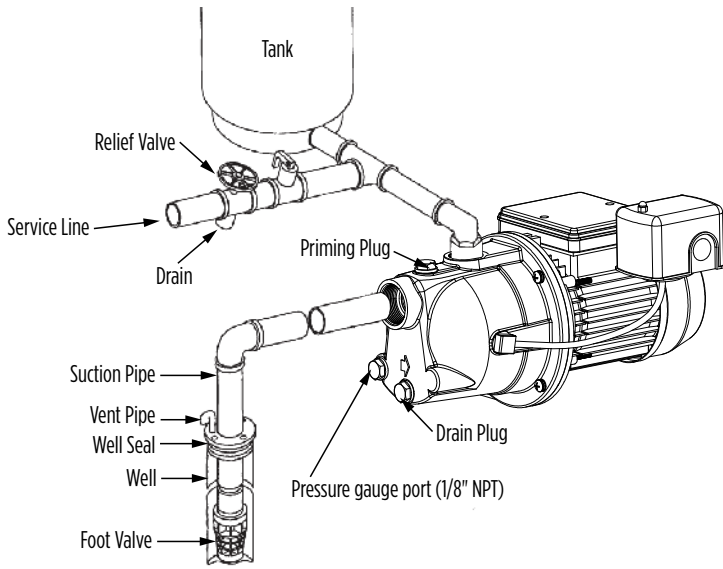
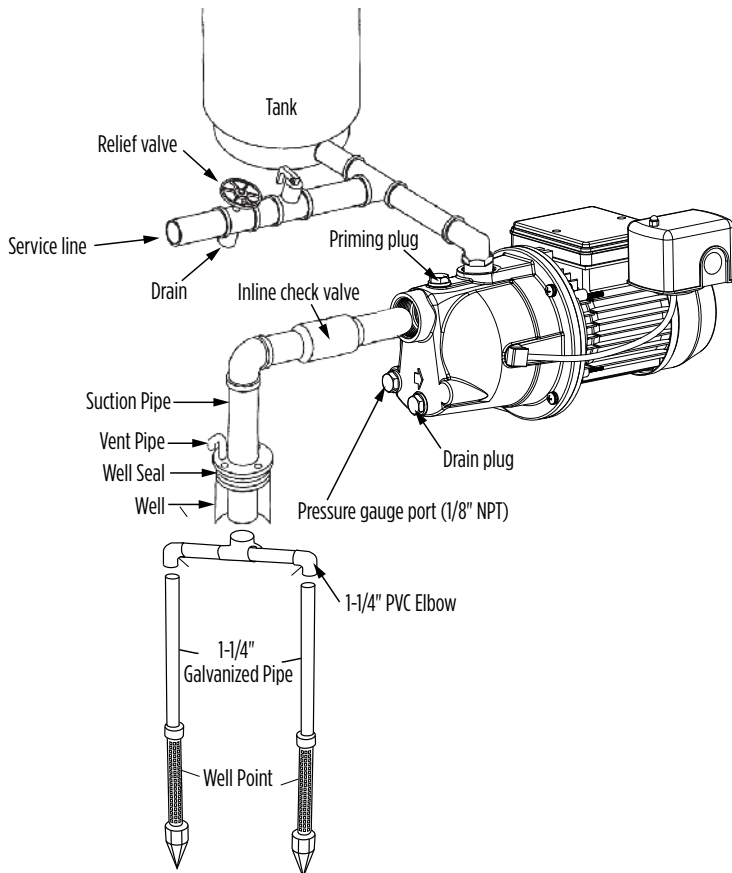

Figure 3 - SHALLOW WELL
Figure 5 - SHALLOW WELL
It is recommended that only new, clean 1-1/4" pipe or hose be used. If the pump is installed any appreciable distance away from the source of water, the suction pipe should be increased to 1-1/2". Horizontal lengths of pipe must gradually slope upward from the source of water to the pump to avoid air pockets in the line. Thread compound should be used on all pipe joints and connections should be thoroughly tightened. **A foot valve or check valve must be installed** and its operation should be checked since a leak will prevent proper operation of the system. Make sure the foot valve is located so that it will be submerged at all times. If a sandpoint or driven well is used, install a check valve next to the pump suction instead of the foot valve (see **Typical Installations** Figure 5). All installations must have a foot valve or a check valve in the suction pipe.
11. A pressure gauge is not supplied with the pump. It should be installed into the 1/8" NPT hole on the front of the casing on the opposite side of the pressure switch (see **Typical Installations** Figures 3, 4, 5, or 6).
Shallow well installations use only a single pipe connecting the pump to the water supply. This pump can be used for drilled wells (see Figures 3, 4 or 6) or driven wells (see Figure 5). Drilled wells are holes drilled into the ground by professional well drillers using a large rig. Driven wells use well points (also known as sand points), which is a long pointed tube with a screen that allows water to enter the pipe but keeps out sand and sediment. The water level in a driven well is fairly high or near ground level (maximum 30 ft [9.1 m]). Continue with the appropriate shallow well installation.
7. A pressure gauge is not supplied with the pump. It should be installed into the 1/8" NPT hole on the front of the casing on the opposite side of the pressure switch (see **Typical Installations** Figures 3, 4 or 6).
1. Drive the well point into the ground according to the instructions that come with the well point. It must be deep enough to bore through the water bearing formation below the water table but should not exceed 25 ft (7.6 m) in depth. An individual well point may not supply the amount of water needed. Sometimes it is necessary to use more than one well point to increase the water supply. The two separate well points can be jointed together using additional piping and a cross joint (see Figure 5).
8. A pressure gauge is not supplied with the pump. It should be installed into the 1/8" NPT hole on the front of the casing on the opposite side of the pressure switch (see **Typical Installations** Figure 5).